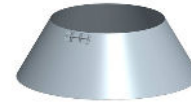

Figure 62 - Storm Collar
The Storm Collar (SC) is used above the flashing for complete weatherization above the roof. It has to be sealed with the outer joint sealant (not included). See **Figure 62**.